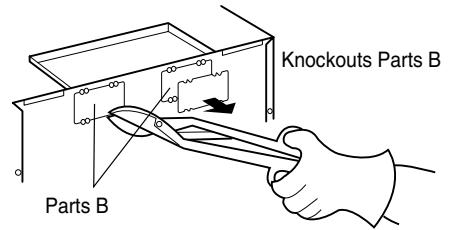

Figure 13
3. Use side cutters or tin snips to cut and remove knockouts B from Back plate. Discard knockouts. Be careful not to distort the plate. See Figure 13.